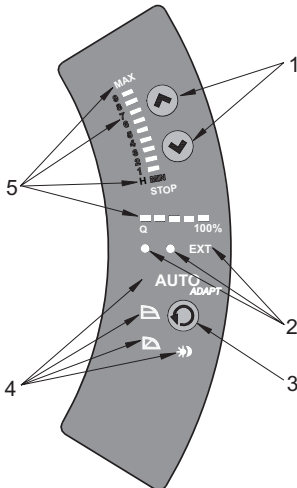

Fig. 11 Control panel
The control panel, fig. 11, incorporates:
The light symbols in pos. 4, see fig. 11, indicate the pump settings: